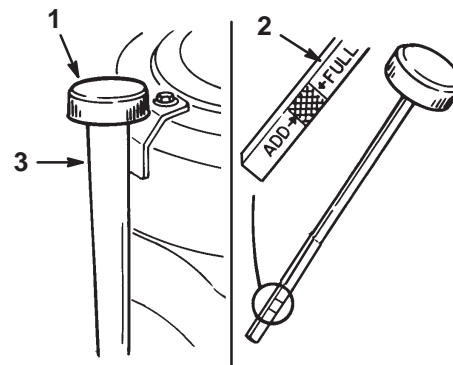

Figure 37
4. Clean around the oil dipstick (Fig. 37) so that dirt cannot fall into the filler hole and damage the engine.
5. Unscrew the oil dipstick and wipe the metal end clean (Fig. 37).
6. Slide the oil dipstick fully into the filler tube, but do not thread onto tube (Fig. 37).
7. Slowly pour approximately 80% of the specified oil (refer to Service Interval/Specification, page 30) into the filler cap (Fig. 37).